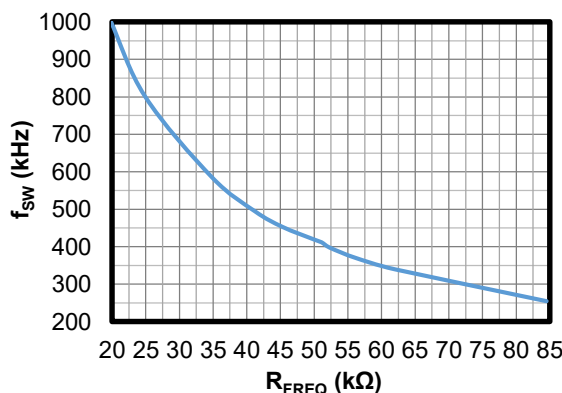

Figure 1: f_{SW} vs. R_{FREQ} ($f_{SW} = 200kHz$ to $1000kHz$)
7. To use the enable (EN) function, apply a digital input to the EN pin. Pull EN above 1.02V to turn the regulator on; pull EN below 0.85V to turn it off. If the enable function is not used, EN can be connected directly to VIN.
8. The MPQ4325's switching frequency (f_{SW}) can be configured by R3, which is the FREQ pin's resistor (R_{FREQ}). R3 can be estimated based on the relationship between f_{SW} and R_{FREQ} . Figure 1 show the relationship between f_{SW} and R_{FREQ} when f_{SW} is between 200kHz and 1000kHz.